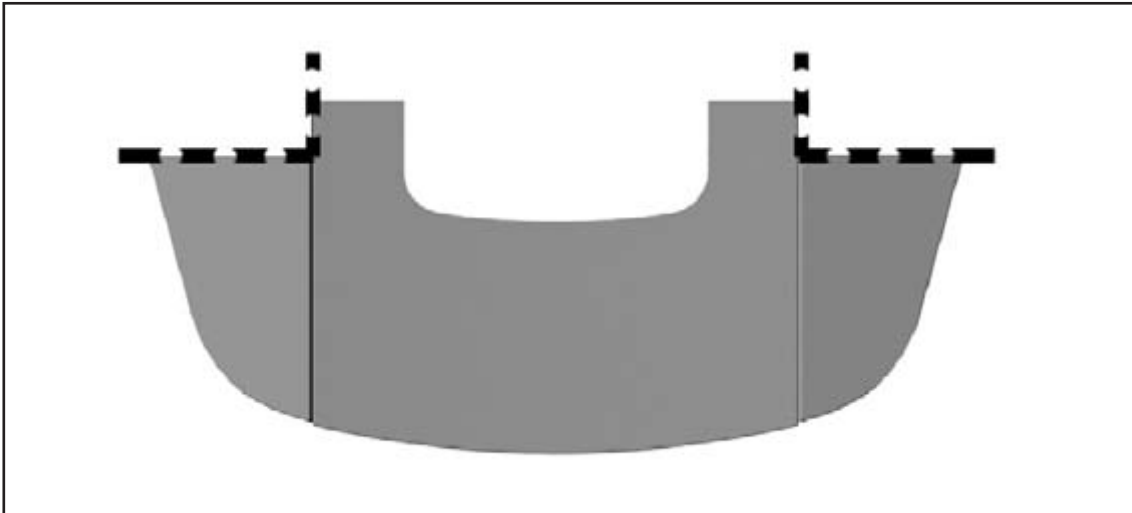

Figure 2.2.1-1
2. Spread sealing compound indicated in points 1-3 in figure 2.2.1-2 and attach the plate. (Tightening torques see appendix 10).